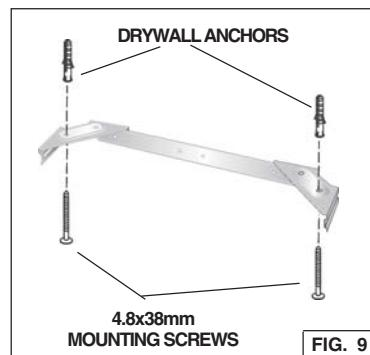

FIG. 9
3. Secure the bracket assembly to the ceiling using (2) 4.8x38mm mounting screws and drywall anchors (Fig. 9). Make sure the bracket is pushed into the corner, tight against the wall and centered over the hood.